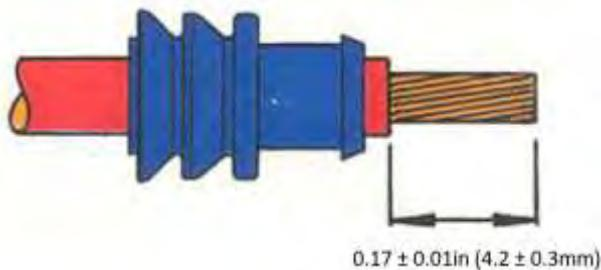

Figure 98
- (2) Use a wire stripper, strip 0.17in. \pm 0.01in. (4.2 \pm 0.3mm) of insulation from the wire on the seal end (Figure 98).